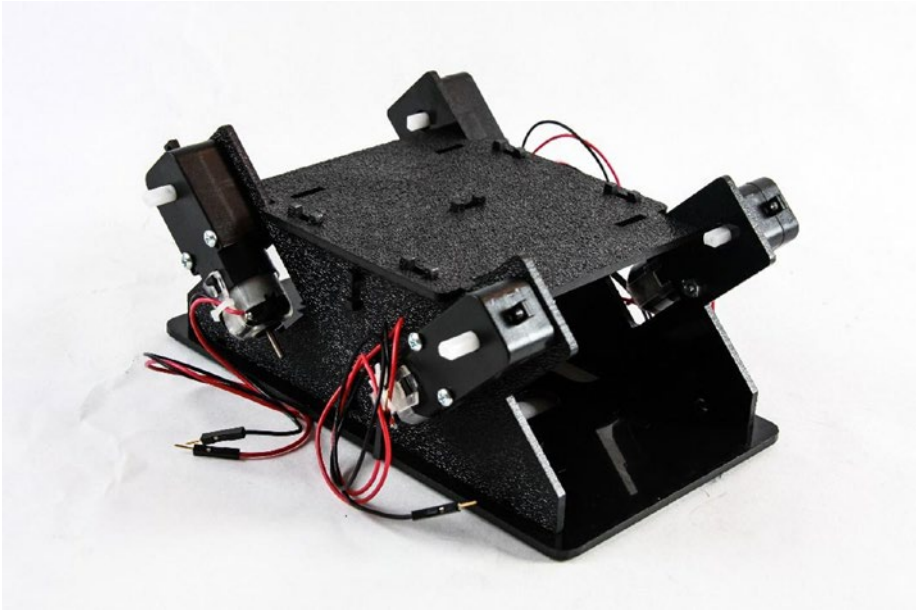

Figure 7-7. Bottom plate added
4. Flip the chassis over and attach the bottom plate. There are five sets of tabs holding the bottom plate on (see Figure 7-7).